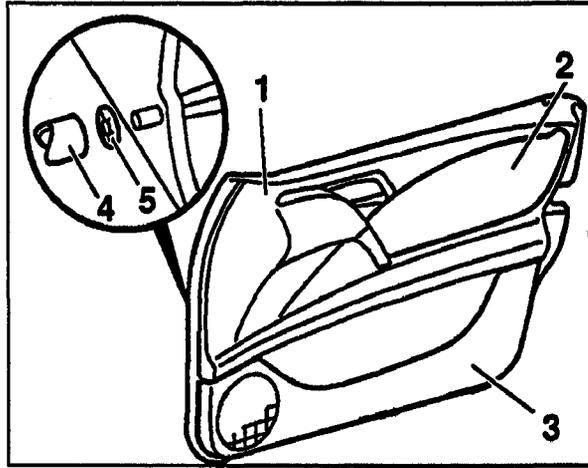

Figure 1
3. Insert the new component (2,3) into the door interior panel (1). While providing support to the component, use a suitable tool (4) and press the clips (5) onto the studs securely (Figure 1).